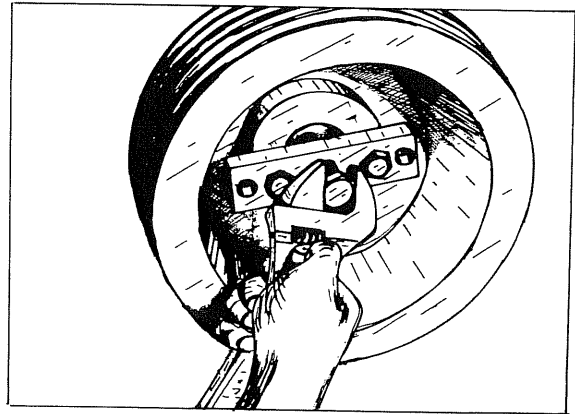

Fig. 17 Removing Compressor Flywheel
- c) Unscrew and remove the large bolt securing the flywheel on the shaft. Fit the puller onto the flywheel as shown in Fig. 17. Position a wood block or metal plate behind the puller so that the jacking screw does not damage the threaded hole in the end of the crankshaft/motor shaft. Tighten the jacking screw to pull the flywheel/motor pulley off the shaft.